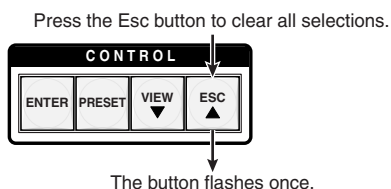

Figure 3-44 — Clear all selections
1. Press and release the Esc button (figure 3-44).